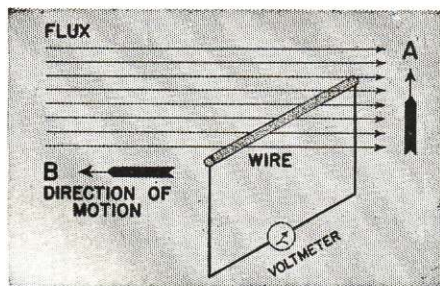

FIG. 10. Diagram illustrating how a conductor cutting across a magnetic field changes the flux linkages and gives an induced voltage.
**1. Cutting Lines of Force.** Imagine a steady magnetic field produced by a permanent magnet or electromagnet, with a conductor (wire) located in this field and connected to a voltmeter, as shown in Fig. 10. When we move this conductor upward
If we move the conductor parallel to the lines of force, as indicated by direction arrow *B* in Fig. 10, however, we do not get an induced voltage. We have neither cut lines of force nor changed the amount of flux passing through the coil, hence we have not changed the flux linkages of the coil.